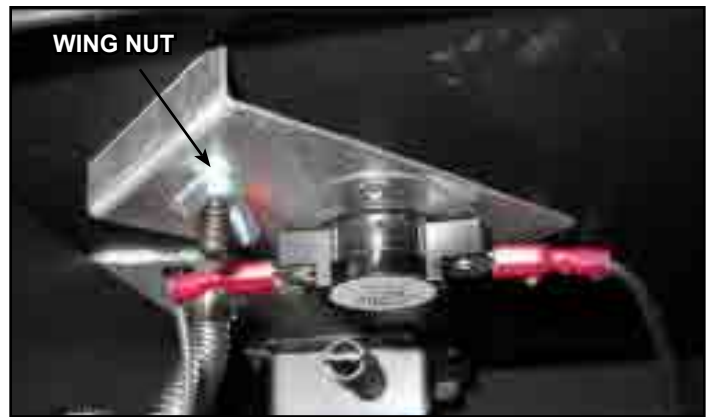

Figure 8.4 Temperature Sensor Switch Installed
3. Slide temperature sensor switch/bracket assembly onto the 10-32 screw located on the underside of the appliance. Secure the bracket assembly with the wing nut provided. See Figure 8.4.